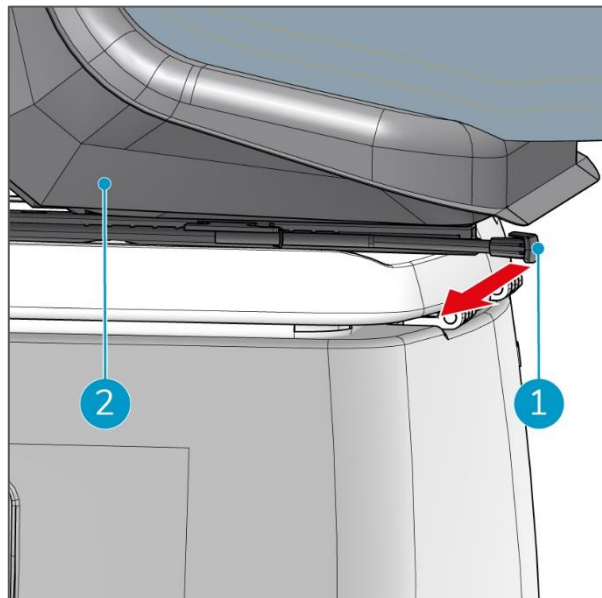

Figure 16
2. Pull the seat lever sideways (Figure 16, pos 1).
3. Move the seat (Figure 16, pos 2) backward- or forward until you are comfortable behind the steering wheel.